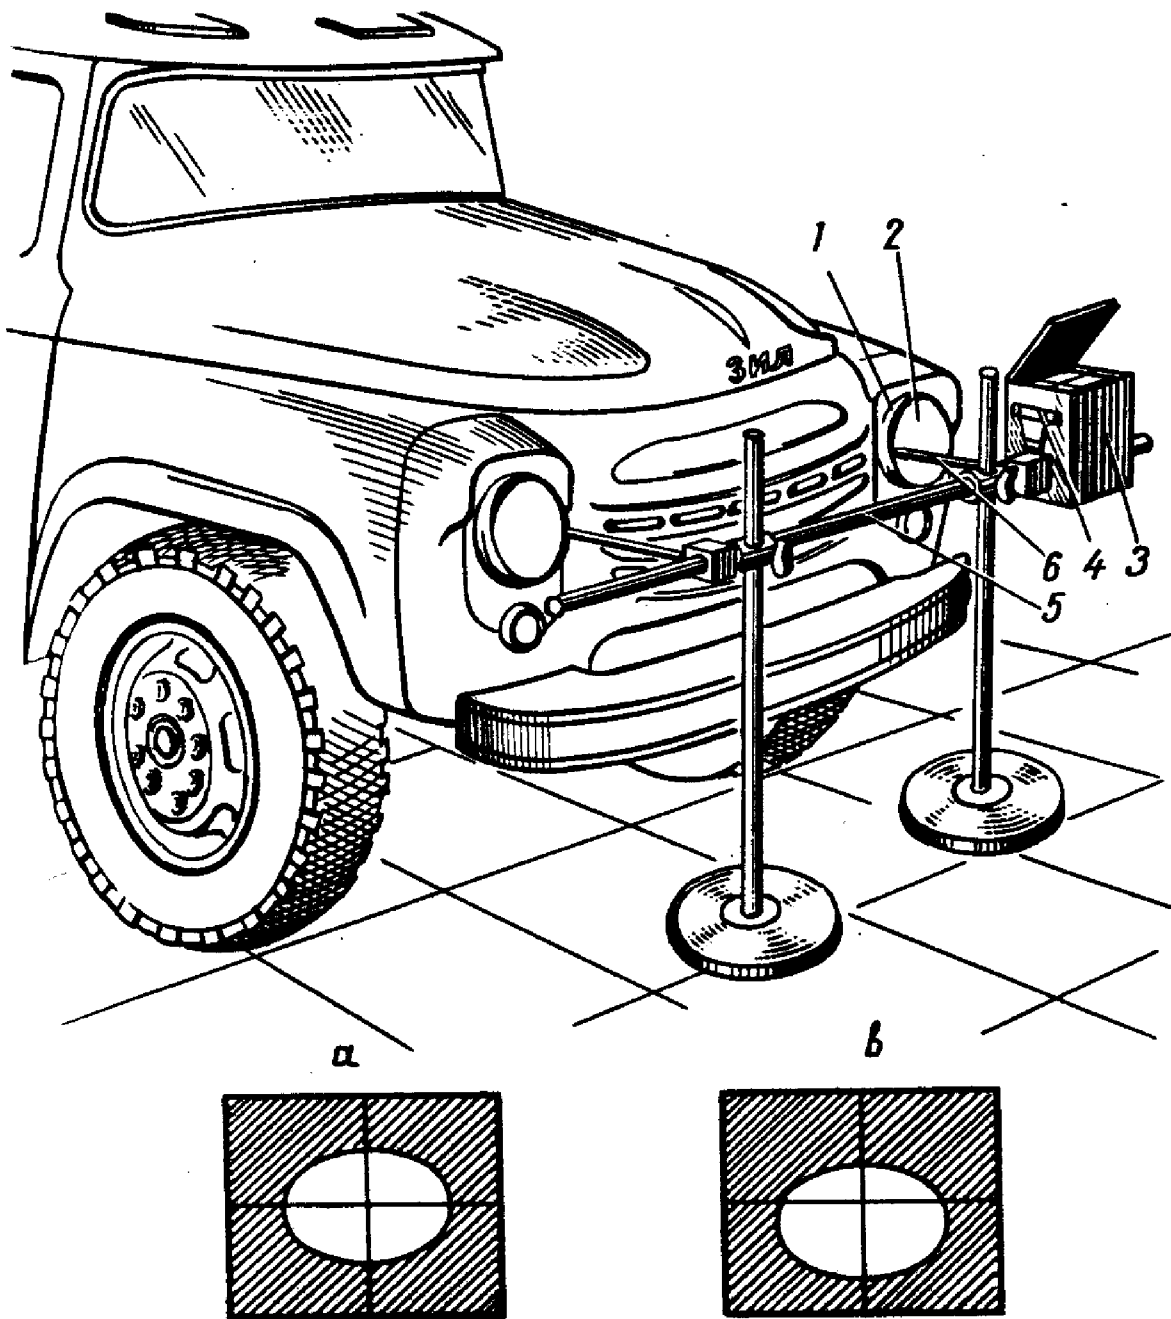

FIG.47. HEAD LAMP AIMING
2. Assemble base bar 5 (Fig.47) and place it on the ground along the vehicle, under it (the middle of the bar on the level of the front buffer).
With the head lamps in a correct position the center of the hot spot should align with the center of the cross (Fig.47,a) on the screen.
8. Switch on the low beam. The hot spot should displace below the horizontal axis of the screen (Fig.47,b).